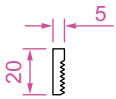

Fig. 17.10 Second example UCS – pline for the bolt
14. In the **UCS X** view, construct one of the bolts as shown in Fig. 17.10, forming a solid of revolution from a pline. Then construct a head to the bolt and with **Union** add it to the screw.